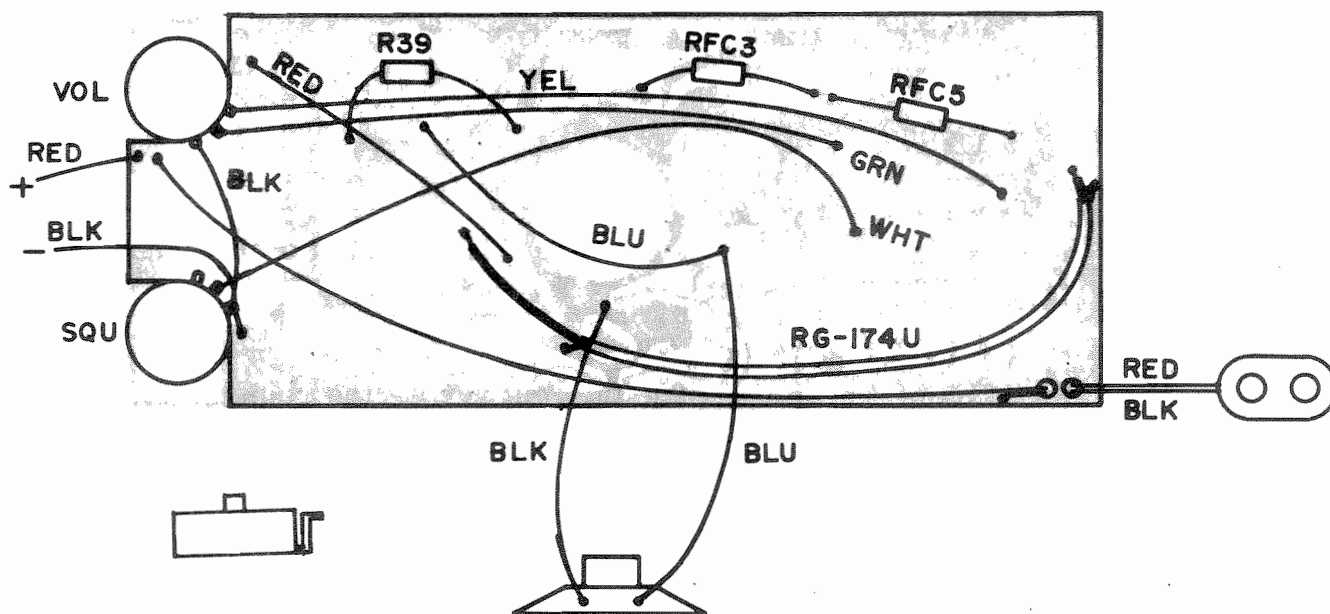

fig. 3 Bottom view of board
- 16.) R39, RFC3 and RFC5 are mounted on the foil side of the board as shown in fig. 3. Use tubing on the leads to prevent shorts.
- 17.) a.) Bend the lugs on the volume and squelch controls up away from P.C. board. See detail on fig. 3 for the proper final configuration of this bend.
- b.) Install the jumper wires on the foil side of the board as shown in fig. 3. Install the speaker wires but do not connect the speaker at this time. DO NOT orient these wires in such a way as to block the speaker mounting hole. Be very careful when soldering to the volume and squelch controls. They can be permanently damaged by excess heat.
- c.) Install the battery connector by passing the black and red leads through both of the strain relief holes adjacent to C29 (see fig. 3). Solder the red lead to the B+ feed point. Pull any access wire back through the strain relief leaving some slack in the red wire. Cut the black lead 3/4 inch from the strain relief and solder to the ground plane.